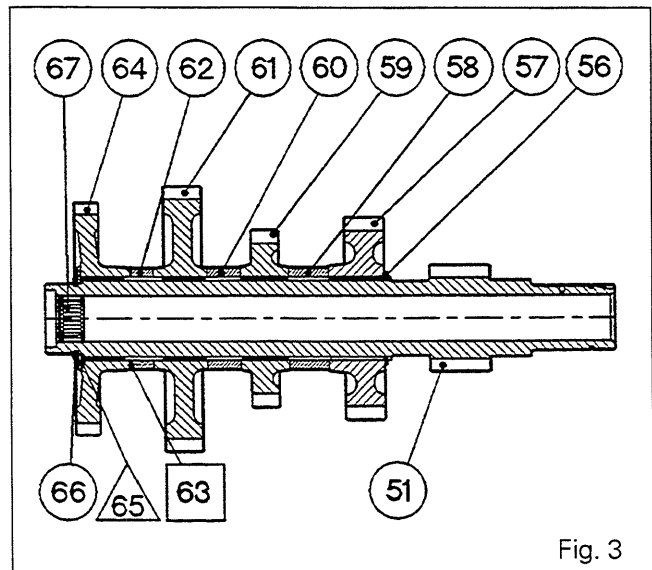

Fig. 3
14. On the layshaft (51), remove snap ring (66) and washer /65\ noting its position. Remove 2nd gear (64), shim(s) [63], spacer (62), 1st gear (61), spacer (60), 4th gear (59), spacer (58), 3rd gear (57) and circlip (56) (Fig. 3).
15. If necessary, drive out the needle roller bearing (67) (Fig. 3).
Refit 2nd gear (64) without shims [63] (Fig. 3).
21. Install washer /65\ and snap ring (66) (Fig. 3).